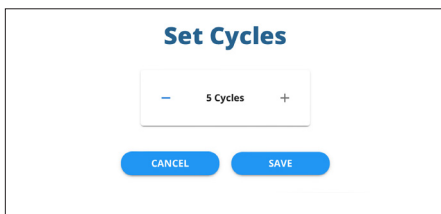

Fig. 64—Use the buttons to set the number of scans to be performed.
2. Press the *Set Cycles* button to set the number of scans to be performed according to the current sequence. A popup displays (Fig. 64). Use the + and – buttons to increment or decrement the number of scans. Then, press the *OK* button to save the changes.